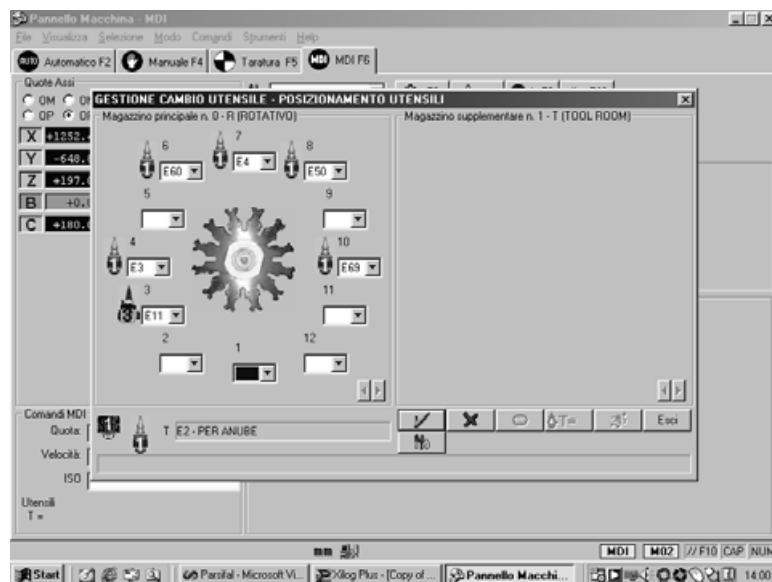

Fig. 9
The tools arranged in the deposits must correspond perfectly to the numbers displayed on the screen that appears when the menu in fig. 9 is activated.
- in "MDI" mode press key F5 (Xilog) / shift + F11 (Xilog Plus): the screen page in fig.9 appears
The lower left hand corner (Ref. A - Fig. 9) displays the electrospindle enabled and the tool if loaded.